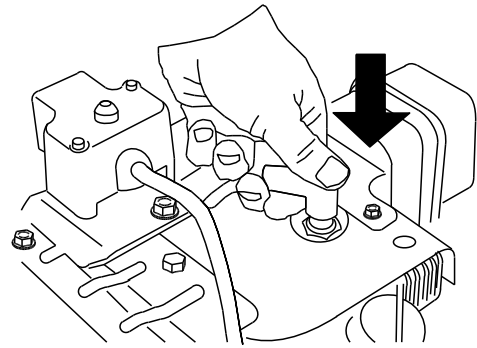

Figure 23
1. Connect the spark plug wire (Figure 23).